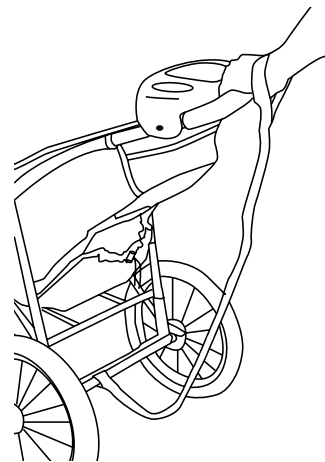
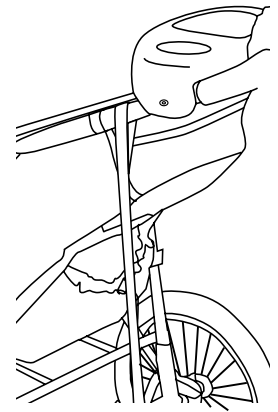

Fig. 15A
Fig. 15B
- **SAFETY TETHER STRAP:** Always connect the safety tether strap to either right or left wrist when jogging. The tether strap will keep the stroller from moving or rolling away in the event that you trip or stumble while running. (Fig. 15A) The safety tether strap must remain connected to the rear lower frame cross member at all times. The safety tether strap can be stored on the left or right side of the stroller with the velcro attachment, when not in use. (Fig. 15B)